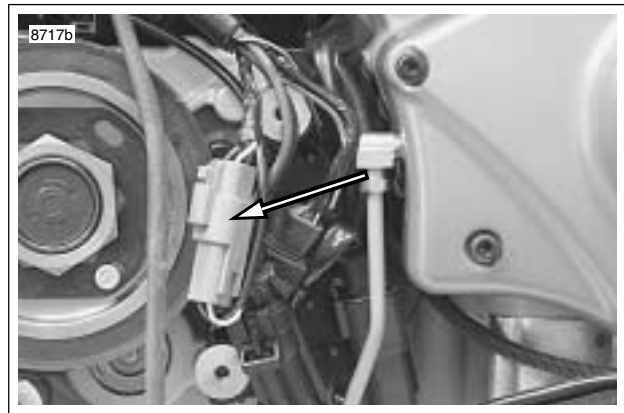

Figure 7-91. Vehicle Speed Sensor Connector [65]
7. Use cable strap (5) to secure cam position sensor (1), cam position sensor wiring (3), neutral switch connector (4) and neutral switch connector wiring (6).
8. See Figure 7-91. Connect vehicle speed sensor connector.